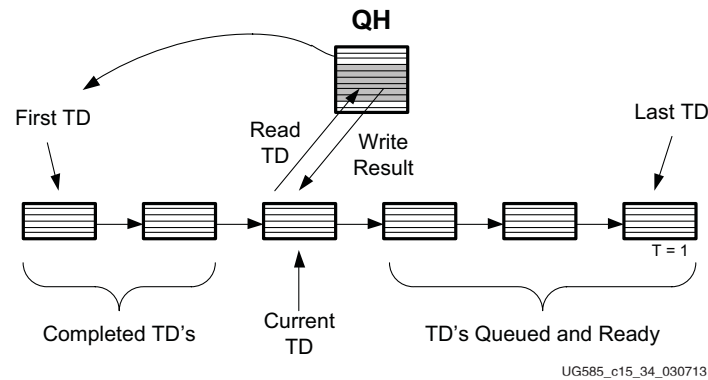

Figure 15-5: USB Controller Link-list Concept
The host and device controllers use link-list descriptors to manage transfers to and from memory buffers. The concept is shown in Figure 15-5. The first Transfer Descriptors (TD) is pointed to by a